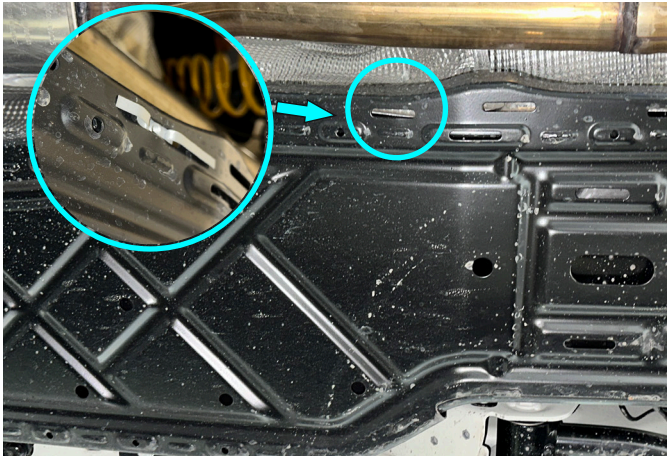

Fig. 1
1. Install insert nut M8 (item B) as shown in fig.1